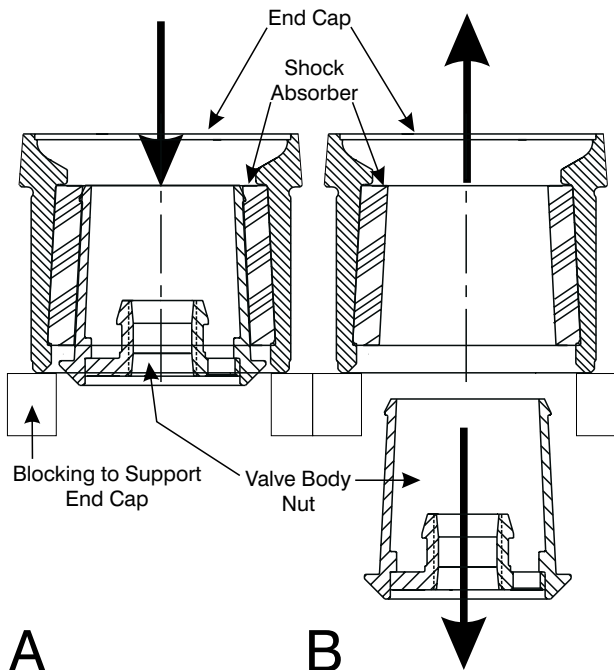

Figure 8-27. Remove Valve Body Nut
4. Lubricate the push bar so it will slide from the Shock Absorber (11) after removing the Valve Body Nut.
5. Press the Valve Body Nut (12) from the Shock Absorber (11) as shown in Figure 8-27-A.
- If a standard push bar is used, the Valve Body Nut (12) will be loosened and pushed part way out of Shock Absorber (11). The Valve Body Nut can be pulled free by hand. Refer to Figure 8-27-B.
- If the recommended size push bar is used, the Valve Body Nut will fall free as it passes out of the Shock Absorber as shown in Figure 8-27-B.